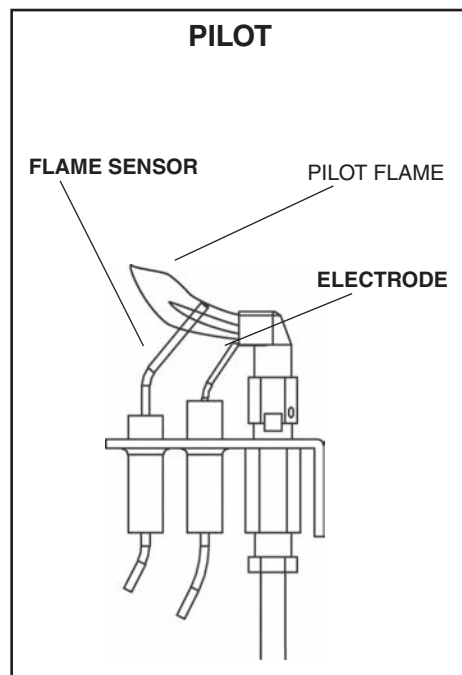

Figure 73: Pilot light.
- b) Check the pilot system for proper flame size and operation. Clean pilot free of soot, dust or any other deposits (Figure 73)